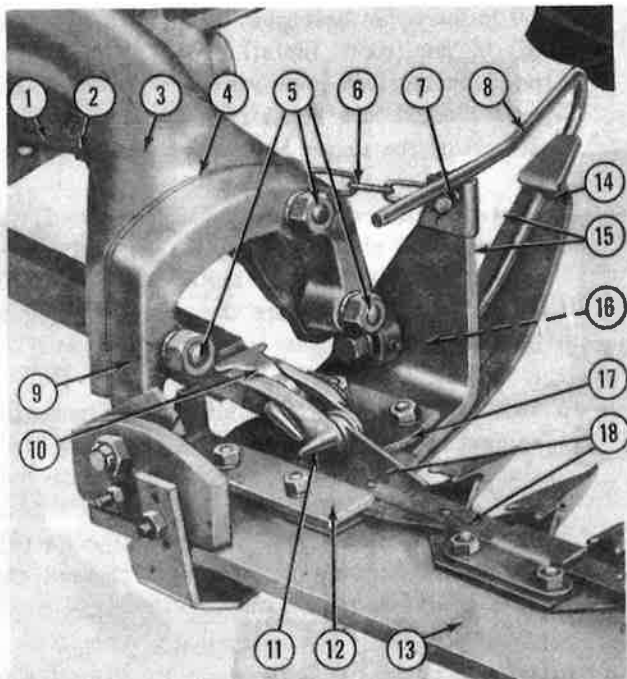
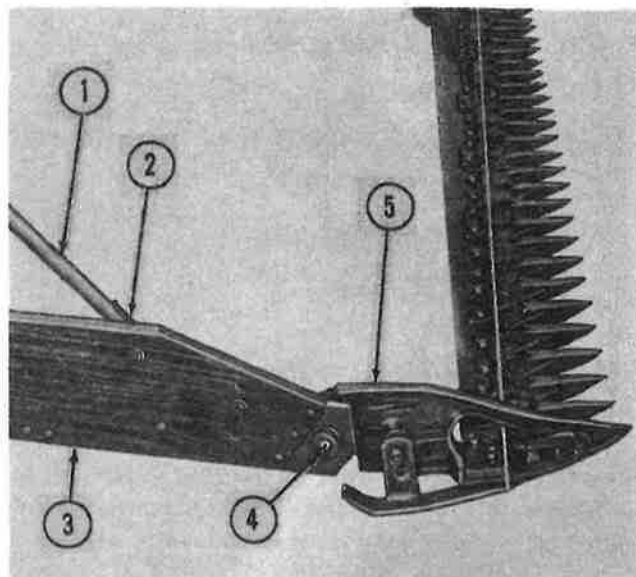
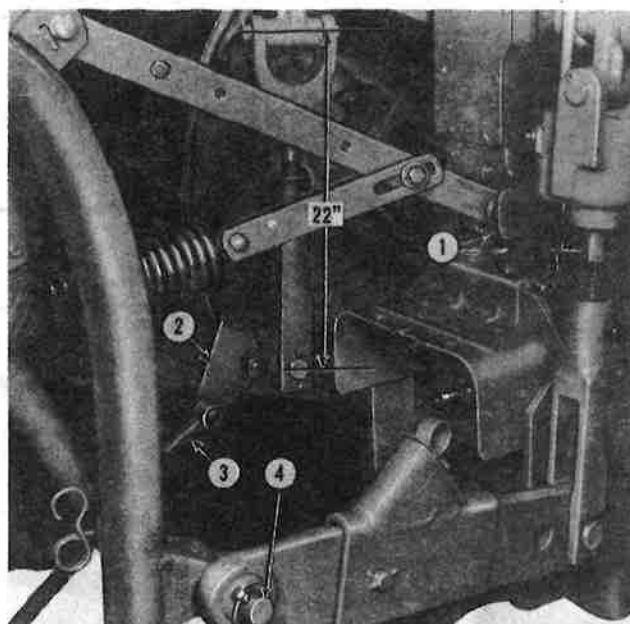

Figure 20
Figure 21
Figure 25
Removing the Knife: Snap the end of the lever (10), Figure 20, up and outward with the small hook on the transport rod. Lift the Pitman arm off the knife head ball with the large hook on the transport rod, and at the same time step on the lever (10) hard enough to press down the knife head ball and spread the Pitman arm straps. Slide the knife free.
- a. Insert three 3/4" x 3-1/2" carriage bolts (5), Figure 20, through the slots in the yoke end of the lower frame (3), and place the register shims (4) on the bolts. Place the cutter bar and Pitman arm in position, and push the bolts (5) through the three holes in the cutter bar yoke (9). Adjust the cutter bar tilt for approximate field conditions, and secure the bolts with lock washers and nuts.
- b. Raise the outer end of the cutter bar (13), Figure 25, and attach the transport rod as shown in Figure 2. Attach one end of the lift link chain (6), Figure 20, to the rod (1) with the 1/2" x 1-3/16" pin and a 1/8" x 1" cotter pin at (2). Attach the other end of the lift link chain to the lift bracket (15) on the inner shoe with the 1/2" x 1-1/4" pin and a 1/8" x 1" cotter pin as shown at (7). Remove the transport rod and lower the cutter bar to the ground.
- c. Install the grass rod (8) on the inner shoe by inserting it through the hole (14), removing the washers and the nut (16); then installing grass rod and reinstalling the flat washer, lock washer and nut (16) on the bolt, thus securing the grass rod to the shoe sole.
- a. Position the swathboard (3), Figure 21, on the right side of the outer shoe (5) and insert a 1/2" x 2-3/4" bolt (4) from the left through the swathboard.
- b. Place a spring and then a flat washer on the bolt (4), and secure with the slotted nut and cotter pin as shown.
- c. Insert the tapered end of the wooden grass stick (1), Figure 21, into the grass stick clamp and secure with the bolt (2), flat washer, lock washer and nut provided.
- a. Release the clamp straps (11), Figure 20, on the Pitman arm by prying the Pitman lever (10) toward the cutter bar.
- b. Insert the knife assembly (18), Figure 20, under the guides (12) and (17). Do not hammer or otherwise force knife; use a large screwdriver to guide it under knife clips as pressure is applied.
- c. Position the Pitman straps (11) on the knife head as shown in Figure 20, and snap the Pitman lever (10) back in place.
6. Attach the anchor assembly (2), Figure 25, to the inside of the tractor left-hand lower link as shown. Attach the top link bracket to the tractor with the link pin.
1. Attach the lower link pins (4), Figure 25, to the mower frame.
8. Secure the push rod (3), Figure 25, to the anchor assembly (2) as shown.